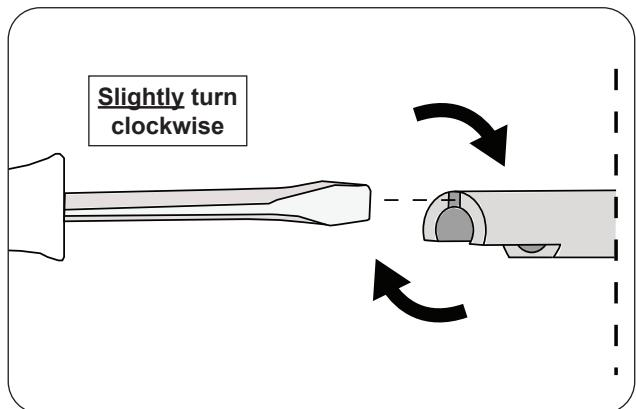

Fig. 42-2 Stem adjustment
2. Insert a flathead screwdriver into the split portion of the stem and GENTLY turn the screwdriver clockwise. Be cautious! Only a slight turn is needed as the stem is flexible. See Fig. 42-2.